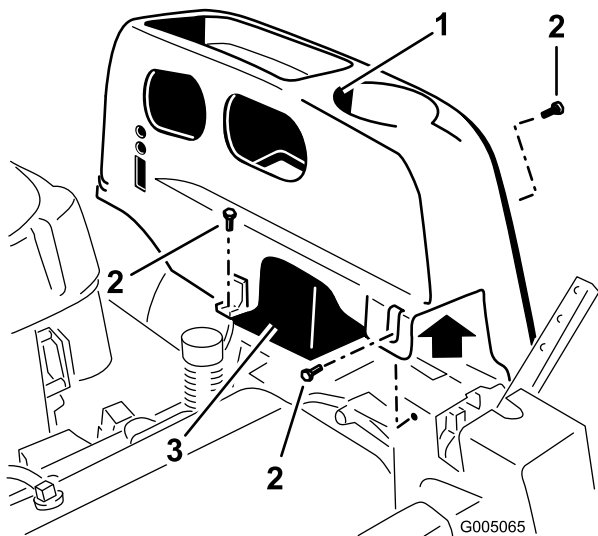

Figure 26
2. Remove the TORX® head fasteners (T25) securing the left cover to the frame as shown in Figure 26.